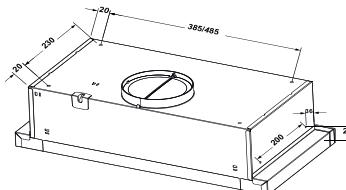

Fig.4
6.6 Connect the bubbler to the turbine outlet (with pipe adapter of bubbler Ø150x120mm). Remove the other end of the bubbler into the ventilation shaft (Fig. 4 / 4.1).